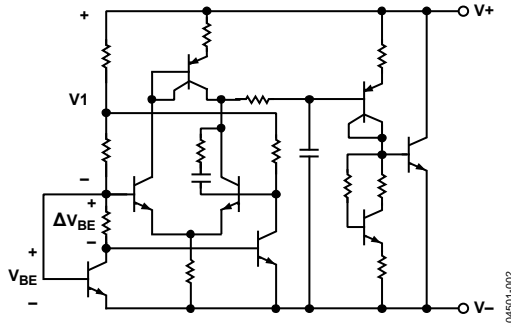

Figure 18. Circuit Schematic
The ADR520/ADR525/ADR530/ADR540/ADR550 use the band gap concept to produce a stable, low temperature coefficient voltage reference suitable for high accuracy data acquisition components and systems. The devices use the physical nature of a silicon transistor base-emitter voltage (V_{BE}) in the forward-biased operating region. All such transistors have approximately a $-2\text{ mV}/^\circ\text{C}$ temperature coefficient (TC), making them unsuitable for direct use as low temperature coefficient references. Extrapolation of the temperature characteristics of any one of these devices to absolute zero (with the collector current proportional to the absolute temperature), however, reveals that its V_{BE} approaches approximately the silicon band gap voltage. Thus, if a voltage develops with an opposing temperature coefficient to sum the V_{BE} , a zero temperature coefficient reference results. The ADR520/ADR525/ADR530/ADR540/ADR550 circuit shown in Figure 18 provides such a compensating voltage ($V1$) by driving two transistors at different current densities and amplifying the resultant V_{BE} difference (ΔV_{BE} , which has a positive temperature coefficient). The sum of V_{BE} and $V1$ provides a stable voltage reference over temperature.